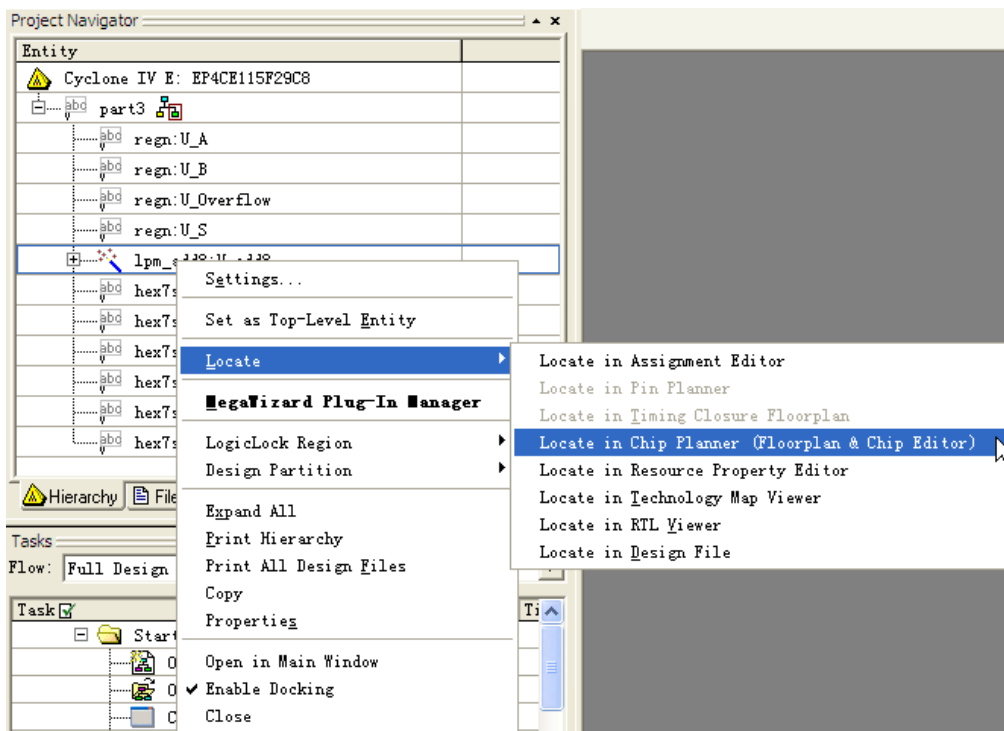
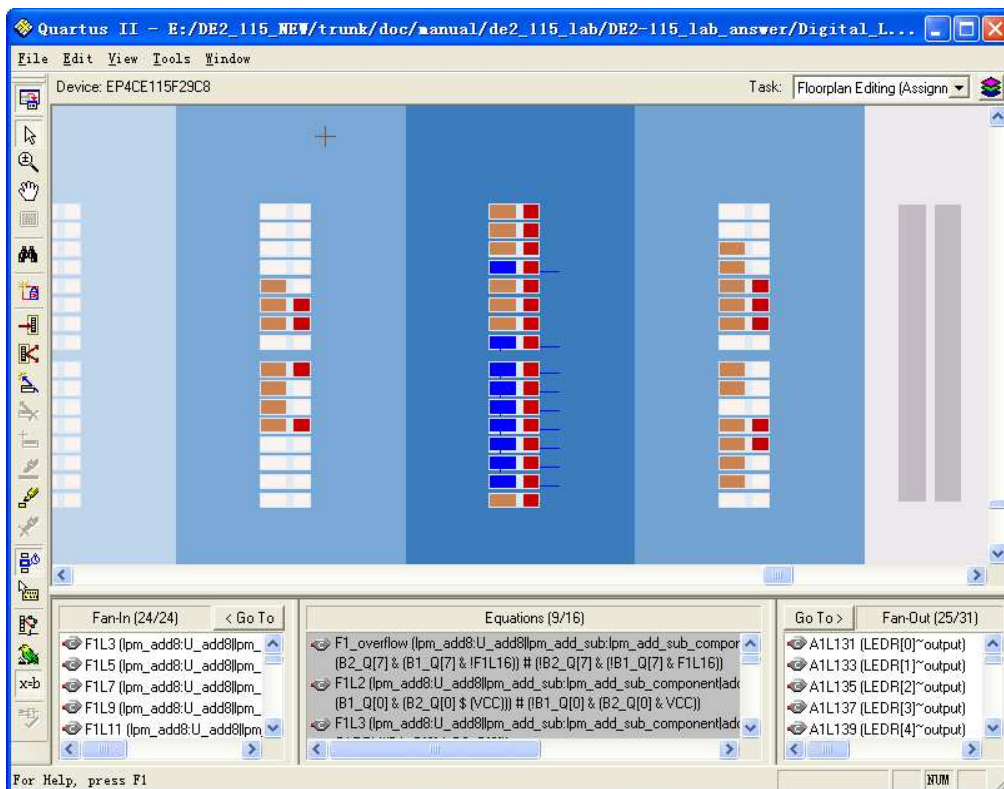
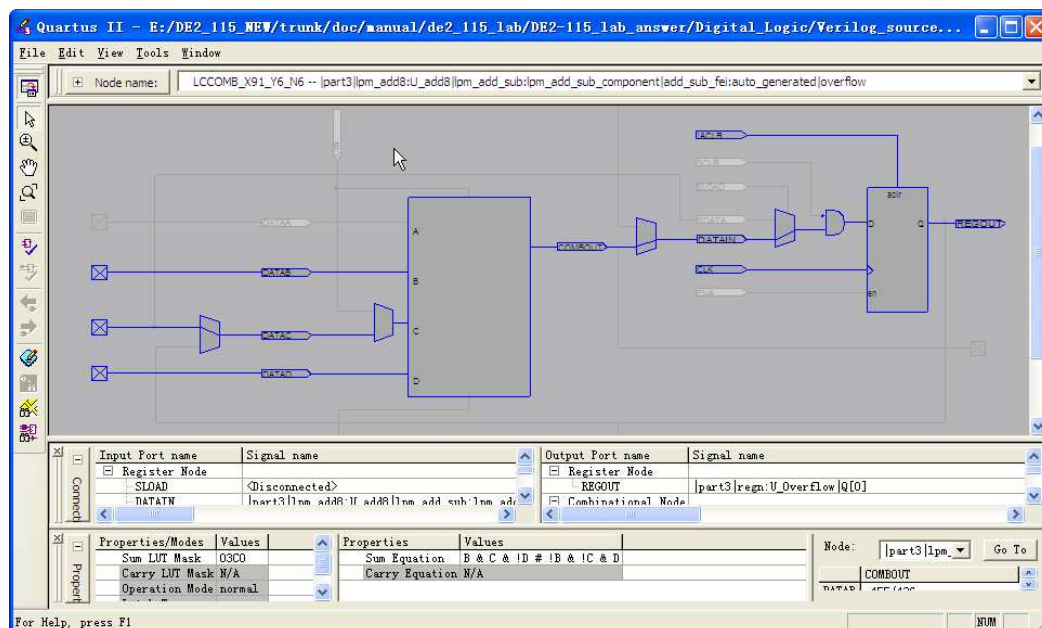

Figure 2. Locating the eight-bit adder in the Chip Editor tool.
Figure 3. The highlighted logic elements for the eight-bit adder.
Figure 4. Examining details in a logic element using the Resource Property Editor.
1. Configure the `lpm add sub` module so that it performs only addition, to make the functionality comparable to Part I. Store your configuration of the `lpm add sub` module in the file `lpm add8.v`. After instantiating this module in your Verilog code, compile the project and use the Quartus II Chip Editor tool to examine some of the details of the implemented circuit. One way to examine the adder subcircuit using the Chip Editor tool is illustrated in Figure 2. In the Quartus II Project Navigator window right-click on the part of your circuit hierarchy that represents the `lpm add8` subcircuit, and select the command `Locate > Locate in Chip Editor`. This opens the Chip Editor window shown in Figure 3. The logic elements in the Cyclone IV FPGA that are used to implement the adder are highlighted in blue in the Chip Editor tool. Position your mouse pointer over any of these logic elements and double-click to open the Resource Property Editor window displayed in Figure 4. In the box labeled `Node name` you can select any of the nine logic elements that implement the adder module. The Resource Property Editor allows you to examine the contents of a logic element and to see how one logic element is connected others.